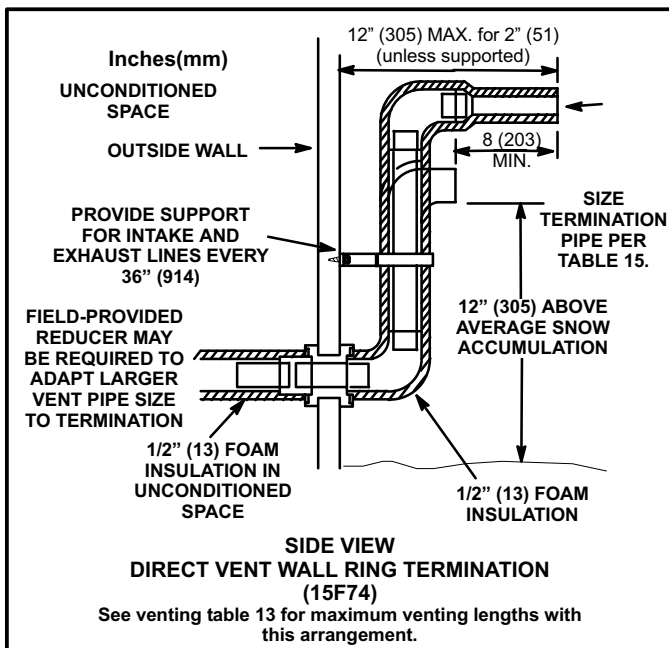
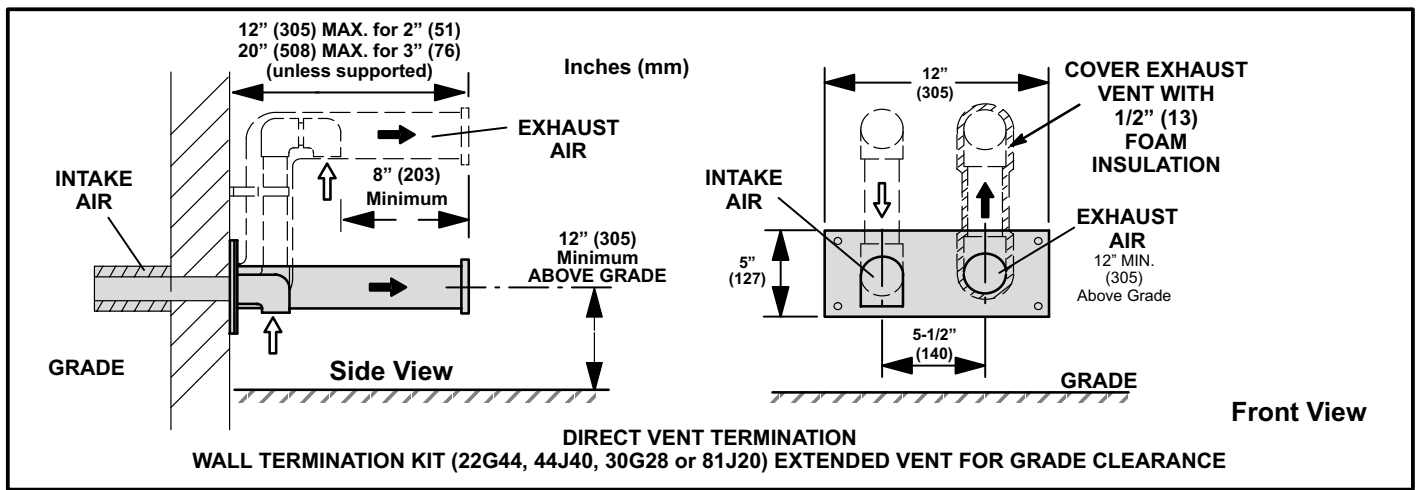

FIGURE 31
FIGURE 34
8. If intake and exhaust piping must be run up a side wall to position above snow accumulation or other obstructions, piping must be supported every 3 ft. (.9m) as shown in figure 18. Refer to figure 31 for proper piping method. In addition, WTK wall termination kit must be extended for use in this application. See figure 34. When exhaust and intake piping must be run up an outside wall, the exhaust piping must be terminated with pipe sized per table 15. The intake piping may be equipped with a 90° elbow turndown. Using turndown will add 5 feet (1.5m) to the equivalent length of the pipe.